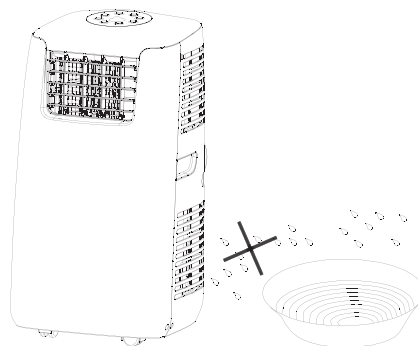

FIG.3
- Do not use this AC in excessively humid or wet environments (fig. 3).